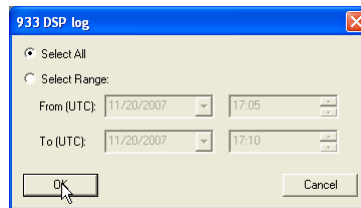

Figure 5.10: Selecting Events to Download – PSCSV 933
Record selection in Figure 5.10 allows you to choose either to Select All records or Select Range. Select Range allows you to limit the number of records you want to view by date and time.
2. From the Data Selection window, choose either Select All or Select Range data by date and time – see Figure 5.10. If choosing Select Range, date and time values are in UTC format.